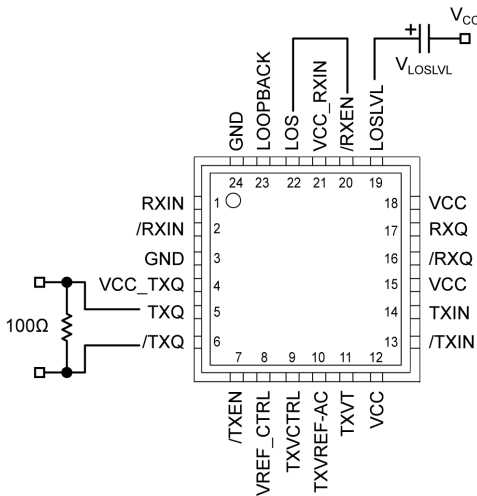

Figure 2a. Voltage Source Implementation
The SY58621L features a chatter-free Loss-of-Signal (LOS) TTL compatible output with an internal 4.75kΩ pull-up resistor. LOS circuitry monitors the input receiver signal and asserts a signal when the input signal falls below the threshold set by the programmable LOS level set pin (LOSLVL). When the amplitude of the receiver input signal falls below the threshold, LOS is asserted HIGH with a response time of ~0.2μs. LOS can be fed into /RXEN to maintain output stability by disabling the output during a Loss-of-Signal condition. Figure 2a and 2b shows the LOS connection to /RXEN. When /RXEN is HIGH, the output signal RXQ is held LOW and /RXQ is held HIGH. Typically, 2dB of LOS hysteresis is adequate to prevent the receiver output from chattering. LOS operation is optimized for data rates ≥ 622 Mbps with an input receiver amplitude of at least 10mV (20mV_{PP}). Due to the long time constant in slower data rates below 622Mbps, the SY58621L LOS function does not guarantee chatter-free operation for low amplitude signals.
between VCC and LOSLVL sets the input amplitude. LOS detection trip-point by setting up a voltage divider between VCC and V_{REF} (an internal voltage source set at V_{CC}-1.3V), since there is a 2.8kΩ internal resistor connected between LOSLVL and V_{REF}. The input voltage range of LOSLVL ranges from V_{CC} to V_{REF}. See the “Functional Block Diagram” section and Figures 2a and 2b, to see how R_{LOSLVL} sets up a voltage divider between VCC and V_{REF}. See the “LOS Output DC Electrical Characteristics” table and “Typical Operating Characteristics” section to see how different R_{LOSLVL} values affect LOS sensitivity.
- Connecting the input /RXEN to the LOS output as shown in Figures 2a and 2b, maintains receiver output stability under a Loss-of-Signal condition